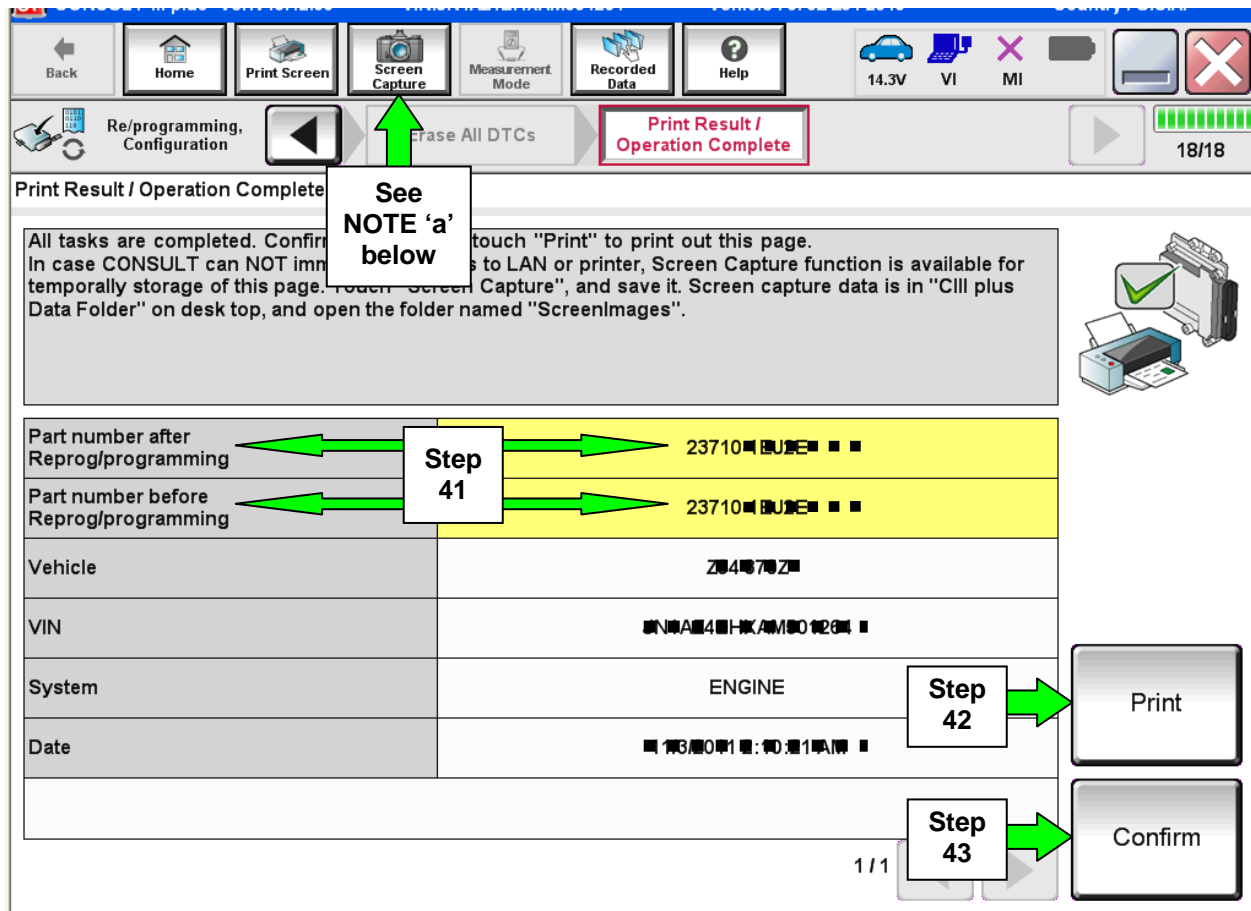

Figure 33
42. Print a copy of this screen (Figure 33) and attach it to the repair order.